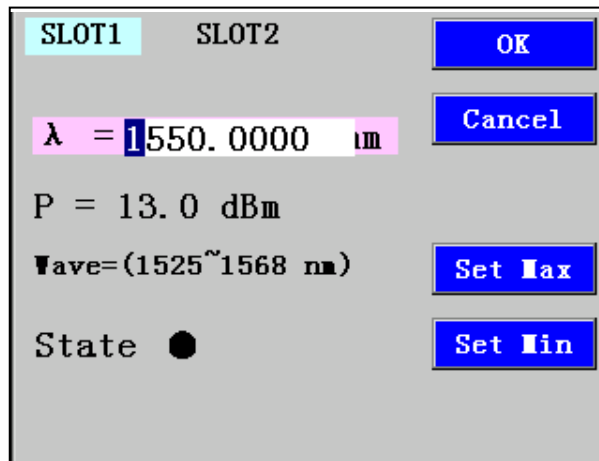

Figure 16 Set the Wavelength of Laser Source
- 2 Press the [Edit], the highlight toggles the first digit of setting value of wavelength. See the figure 16 as shown.